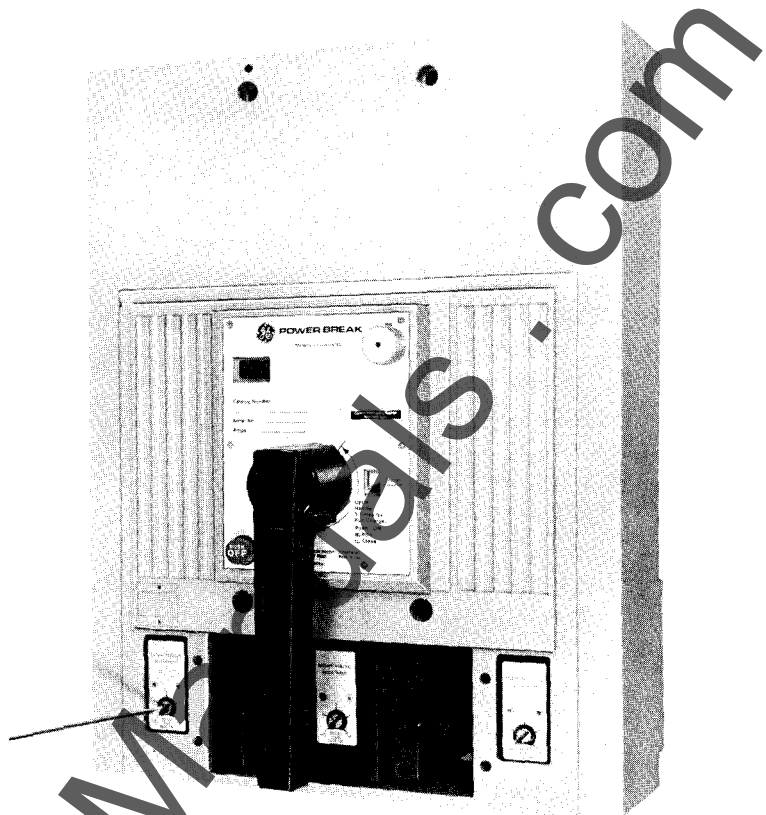

Figure 20.
2. Change trip setting by rotating plastic buttons with a screwdriver (see Figure 20).